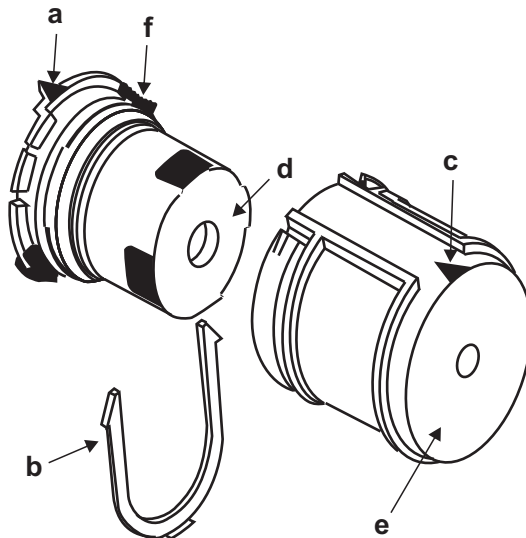

Figure 12 Temperature adjustment carrier exploded
Remove the temperature control handle and the shroud. The temperature adjustment carrier (1) can then be removed by sliding the serrated lever ("f" in fig 12) clockwise and pulling the carrier off. Remove the temperature handle extension (2) in exactly the same manner.
Remove handles and wall plate or covers. Slide out the red "U" clip (b Figure 12) and disconnect the handle carrier to expose the temperature control mechanism. Turn on the shower, position a thermometer in the running water and when the temperature settles, rotate the temperature control mechanism (d) until 40 °C is achieved. Replace the handle carrier (e) ensuring the arrow (c) is at 12 o'clock. Without rotating it, refit the red "U" clip (b). Replace the covers and handles.